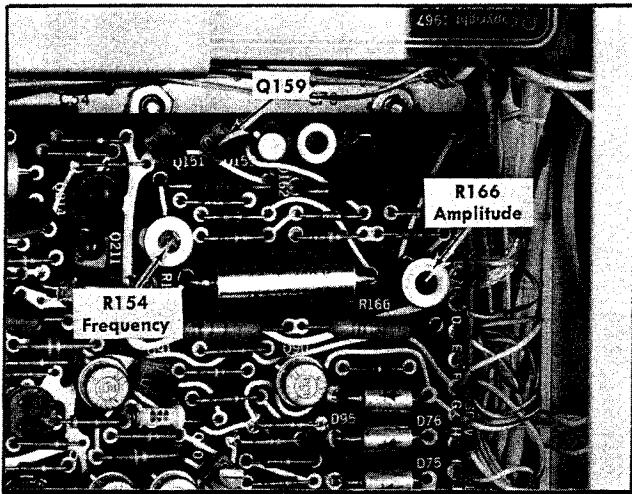
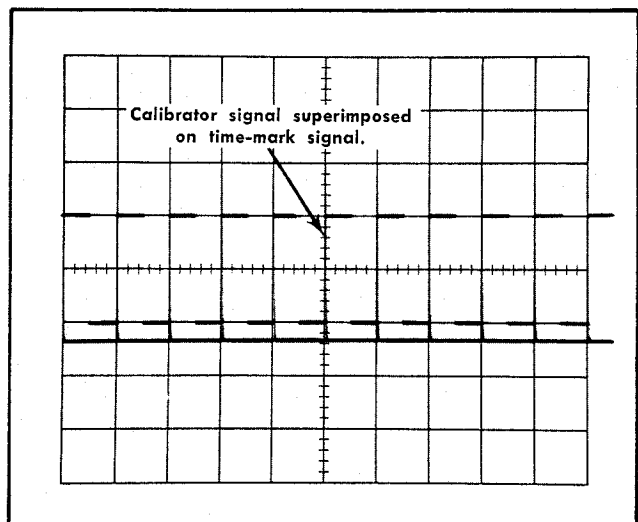

Fig. 5-16. Location of Calibrator controls.
Fig. 5-17. Typical CRT display showing correct calibrator repetition rate.
c. **ADJUST**—R166, Amplitude (Fig. 5-16) for a meter reading of exactly +40 volts.
c. ADJUST—R166, Amplitude (Fig. 5-16) for a meter reading of exactly +40 volts.
d. Remove Q159 (Fig. 5-16) and check the remaining calibrator voltages as listed in Table 5-2. Connect a 50-ohm termination to the CAL OUT connector when checking the 0.2 V, 20 mV and 2 mV positions of the CALIBRATOR switch.
**CHECK**—One cycle of calibrator waveform for each marker (see Fig. 5-17). The error in 10 major divisions must be  $\leq 0.5$  minor divisions (the positive transition of the square wave at the right hand edge of the graticule must be no more than 0.5 minor division (1 mm) from the positive transition of the corresponding time marker). **Disconnect the time-mark generator and proceed to step 20.**
g. **ADJUST**—R154, Frequency (Fig. 5-16), for one cycle of calibrator waveform for each marker. See Fig. 5-17. (Since the sweep was calibrated in step f, the display should also be one cycle of calibrator waveform for each major division).